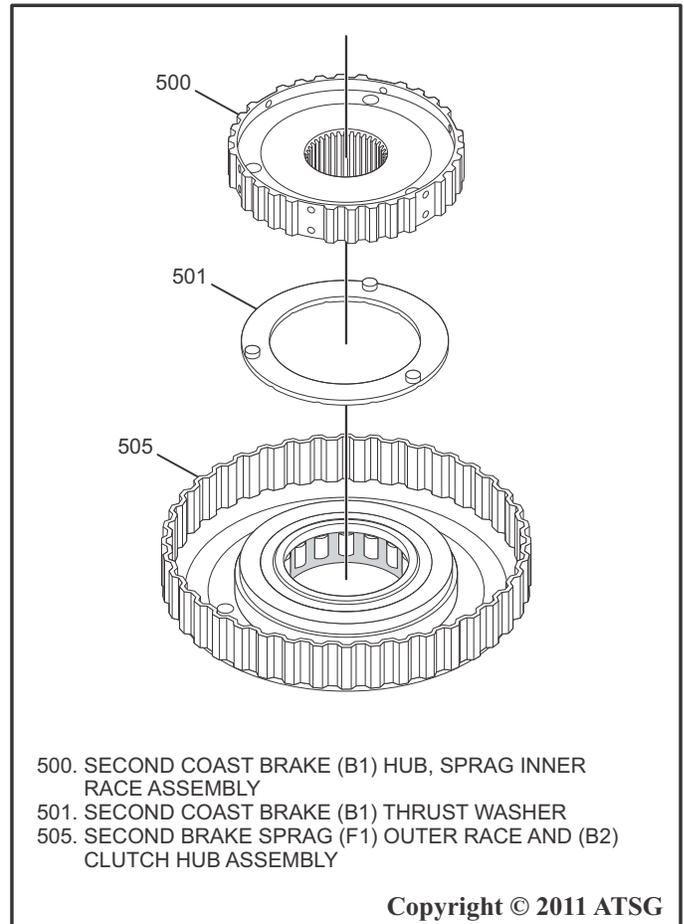

Figure 117
6. Coat the Second Coast Brake (B1) Thrust Washer with a small amount of Trans-Jel® and attach to the Second Coast Brake (B1) Inner Race as shown in Figure 117.
7. Install the Second Coast Brake (B1) Hub onto the Sprag Assembly using a clockwise twisting motion as shown in Figure 117.